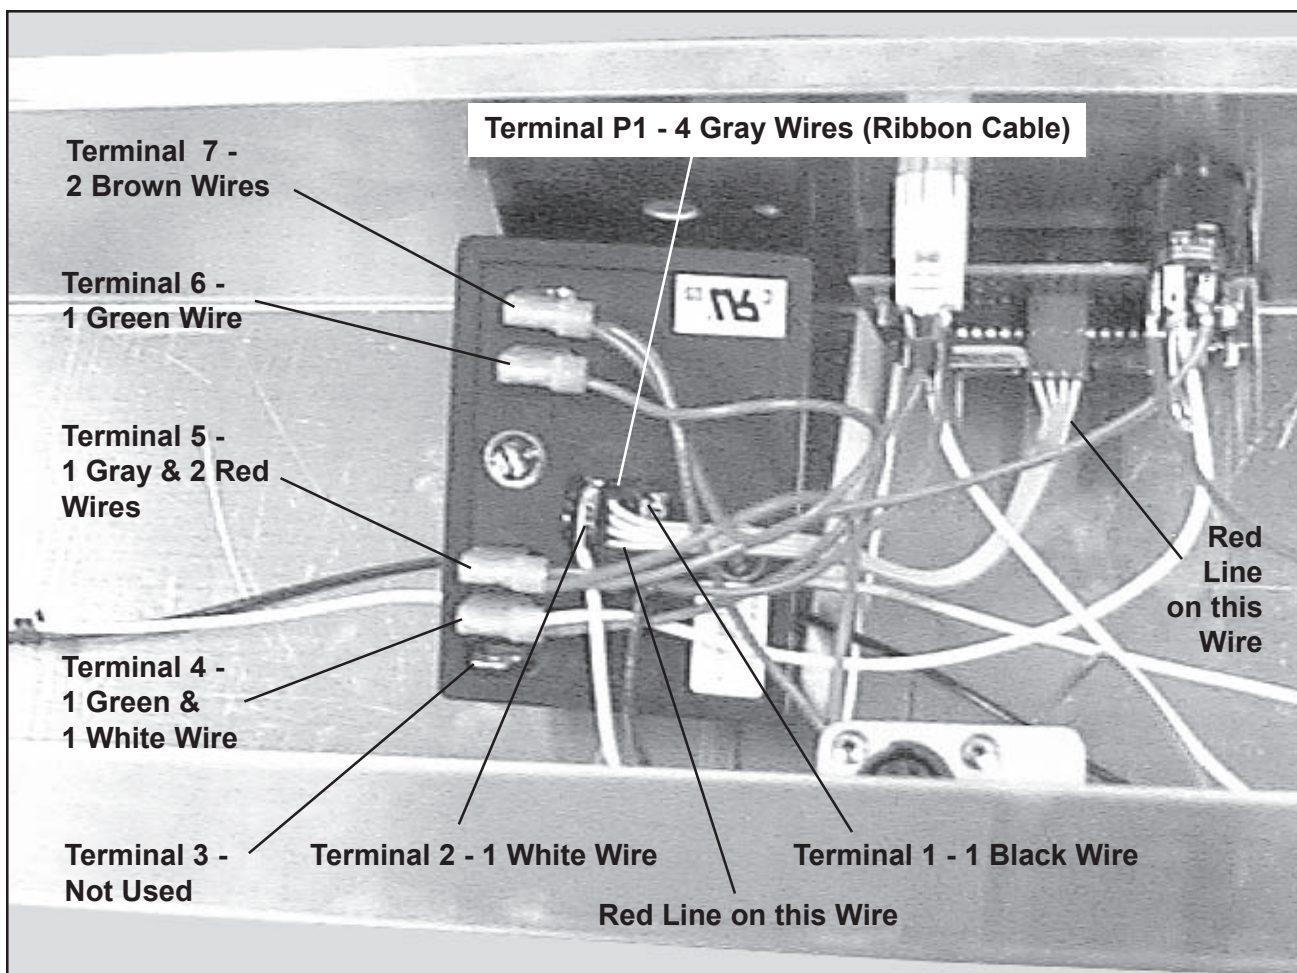

Figure 24. Wire Connections on Temperature Control Assembly
In the next steps you will pull the wire connectors off the terminals on the rear of the temperature control assembly (Figure 24).
1. Rest the new temperature control assembly in the housing oriented as shown in Figure 24. **Note:** Remember that the housing is inverted as you are working on it, so the temperature control assembly will go in upside-down.
4. Replace the connector (four gray wires - ribbon cable) onto Terminal **P1**. **Note:** The wire with the red line should go toward the bottom, and toward the power cord end of the housing (Figure 24).
Note: If you have accidentally disconnected wires from the temperature control assembly, refer to Figure 24 and reconnect them in their correct positions.